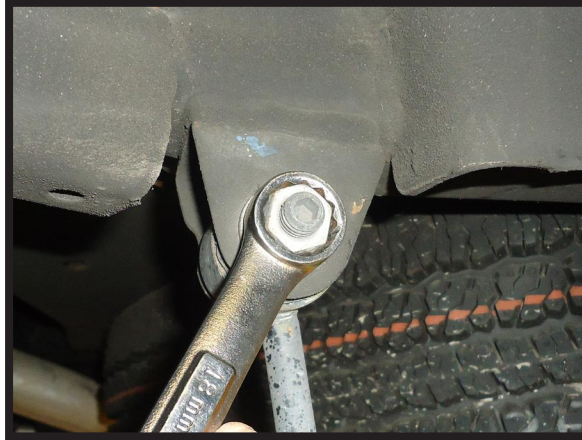

FIGURE 57
11. REMOVE THE NUTS ON THE UPPER SWAY BAR END LINKS. (FIGURE 57)